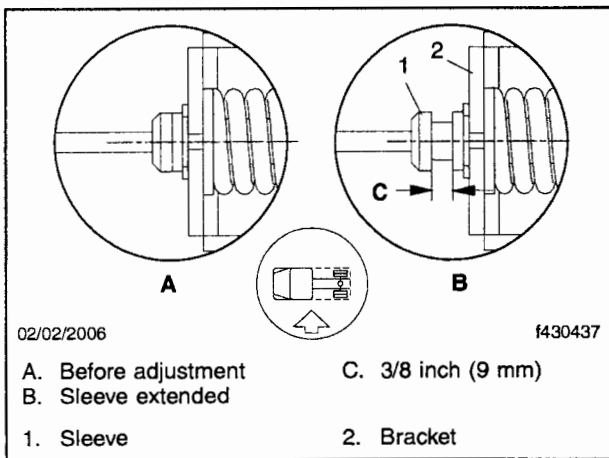

Fig. 8, Cable Sleeve Extended
- 23.1 Apply the parking-brake pedal until it bottoms out. Measure the sleeve extension at the bracket. See **Fig. 8**. If it is approximately 3/8 inch (9 mm), it is properly adjusted; no further work is needed. If not, release the parking-brake pedal and go to the next step.